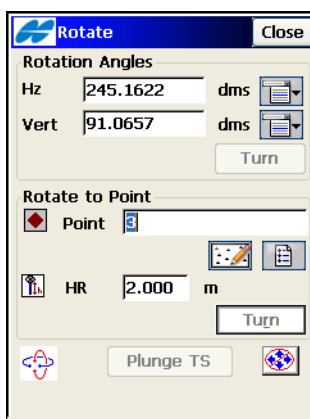

Figure 10-21. Rotate the Remote Total Station
- **Turn** – opens the *Rotate* screen (Figure 10-21 on page 10-21) which allows the total station to turn to various angles or points.
The **Rotate** screen (Figure 10-21 on page 10-21) contains settings for rotation of the remote total station.